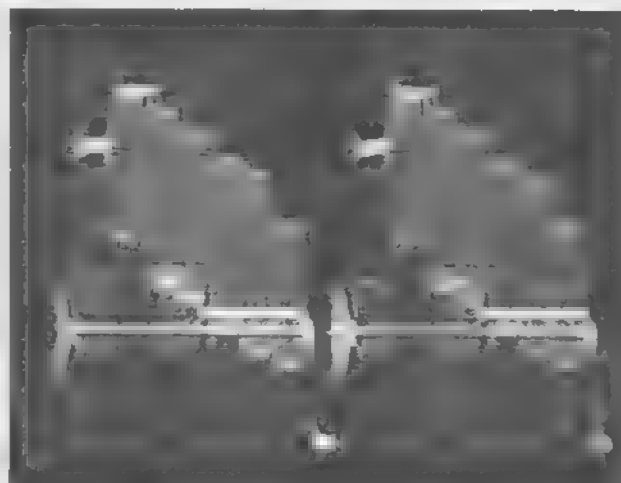

Figure 2-16. VCR playback
**Luminance level:** For the 75% white bar in full field bars the correct level is 77 IRE. See Figure 2-16. For EIA type bars (100% white chip below yellow and cyan in the lower quarter of the picture display) the correct level is 100%
**Chrominance level:** Correct chrominance level is indicated for 75% color bars when the positive peaks of subcarrier on the yellow and cyan bars are at the 100 IRE level. See Figure 2-16.